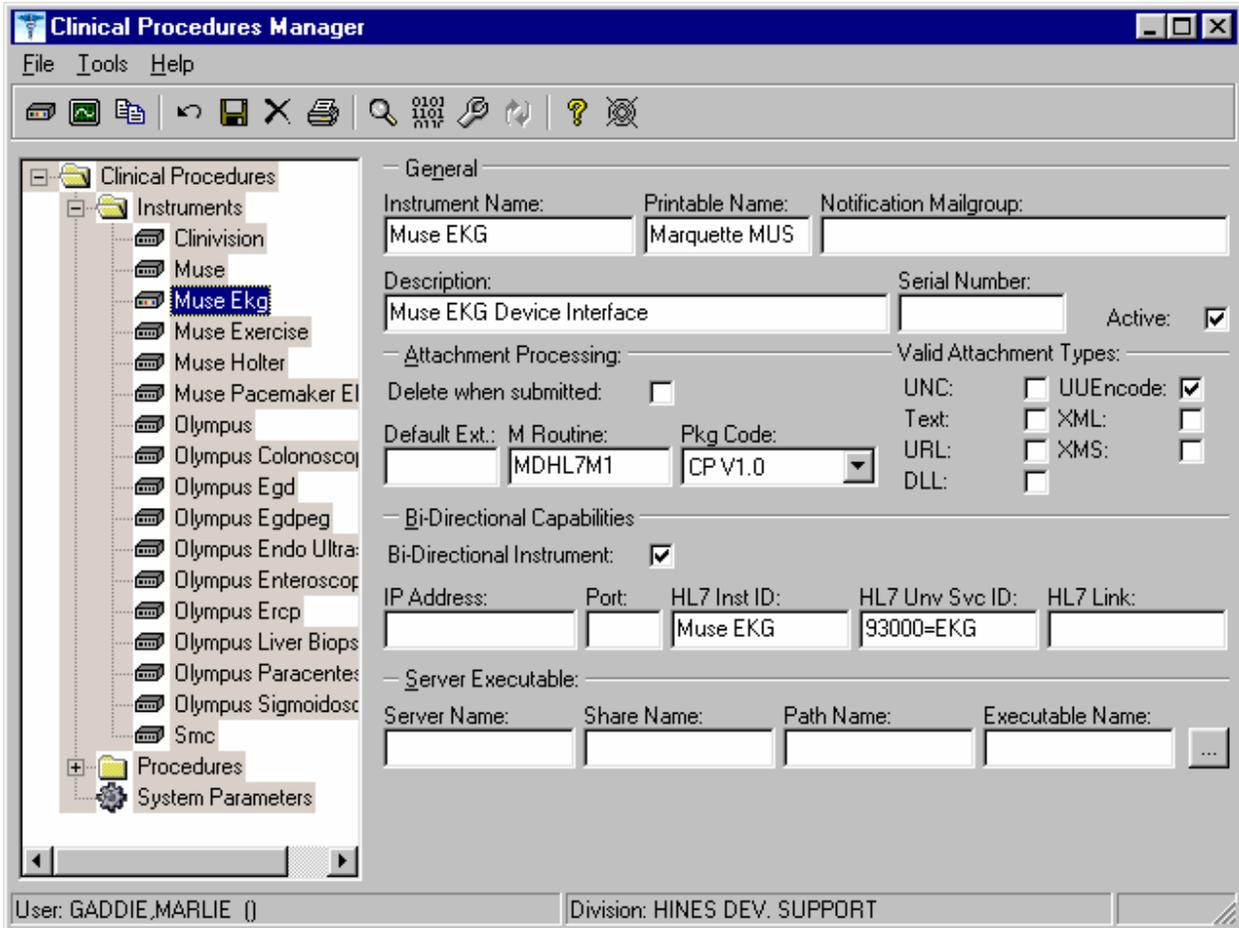

Fig. 6-2
1. View the list of automated instruments. See Fig. 6-2.